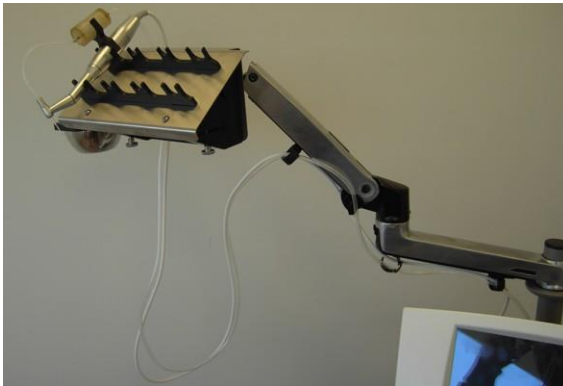

Figure 3-66. Extraction Handpiece Cable and Tubing Inserted into the Articulated Arm's Cable/Tube Holders
22. Insert the handpiece's cable and tubing into the cable/tube holders on the articulated arm, as shown in Figure 3-66.